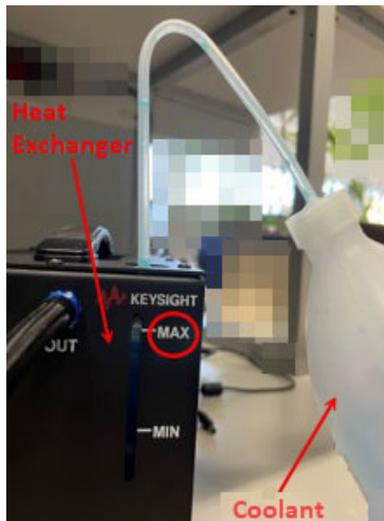

Figure 11 Filling heat exchanger with coolant
- 2 Open the lid on the top of the heat exchanger tank and fill the coolant up to the **Max** marking as shown in Figure 11.